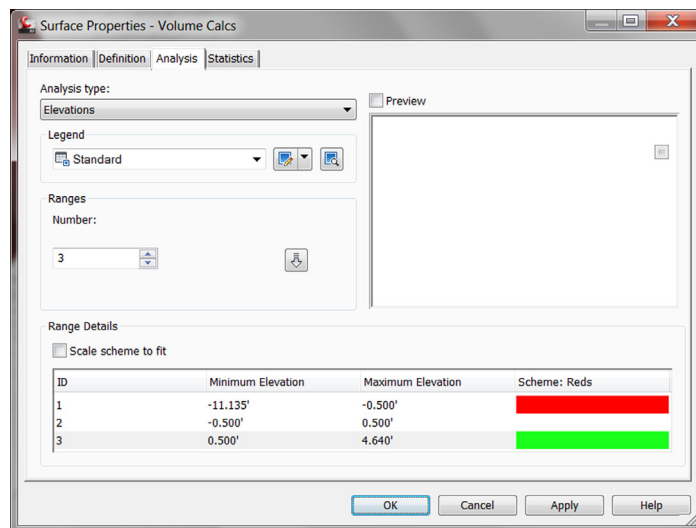

Figure 6: The Analysis tab of the Surface Properties dialog box is where we can finalize our ranges and color choices.
**Step 1:** In Prospector, right-click on the Volume Calcs surface and select Surface Properties. **Step 2:** Select the Analysis tab (see Figure 6).
**Step 4:** Set the elevations of the middle range to -.5 min. and .5 max. This range will represent virtually unchanged conditions. **Step 5:** Set the max value of the top range to -.5 to represent all cut elevations. **Step 6:** Set the min. value of the lower range to .5 to represent all fill elevations. **Step 7:** Finally, double click on the color samples at the end of the rows to define the colors of the shading. (Use Figure 6 as a guide.) Typically, I like to select colors from the True Color tab because these colors don’t conform to the plot style table. They will always appear the same on screen and on the finished plots. Click OK when finished.